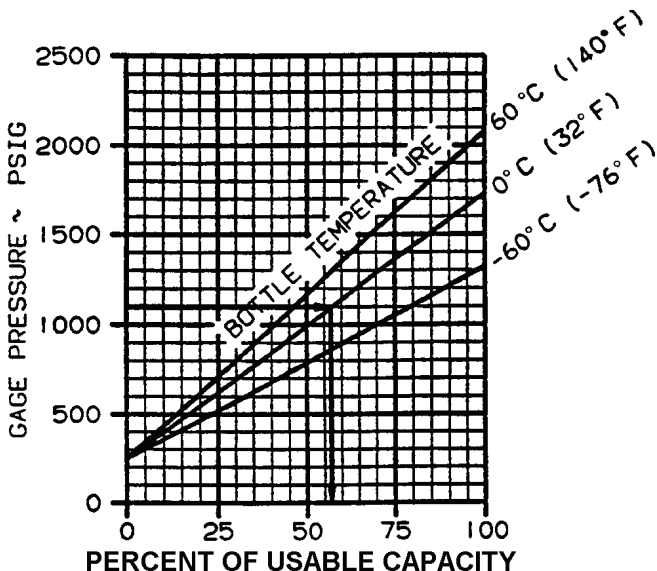

Figure 8-1. Percent of Usable Capacity
- (1) Read oxygen pressure from the gauge.
- (2) Read the OAT (with battery on).
- (3) Determine the percent of usable capacity from Figure 8-1 (e.g., 1100 psi at 0°C = 57%).
- (4) Compute the oxygen duration in minutes from Table 8-1 by multiplying the full bottle duration by the percent of usable capacity, as in the following example.